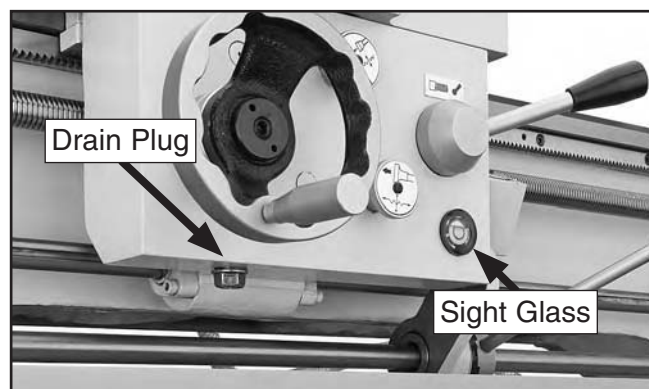

Figure 105. Locations of the apron drain plug and sight glass.
The apron oil sight glass is on the front of the apron, as shown in **Figure 105**. Maintain the oil volume so that the level is approximately halfway in the sight glass.
3. Position the catch pan under the drain plug (see **Figure 105**), then remove the plug.